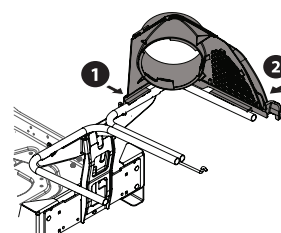

Figure 6
1. Tilt the front of the upper chute support (631-054918) slightly forward. Slide the clip behind the tab, then snap the front latch to the rail, as shown in (1) of Figure 6.
2. Snap the upper chute support in place by first clipping the side portion onto the bagger support rail. See (2) in Figure 6.